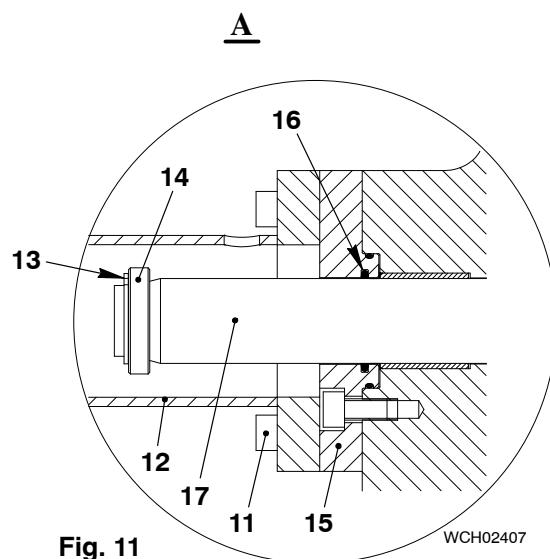

Fig. 11
- 5) Remove upper spring carrier (9) by using a M8 bolt.
- 6) Turn regulating sleeve until the guide pin (10) is in line with the cut in the regulating sleeve and lift the regulating sleeve off.
- 7) Unscrew the screws (11, Fig. 11) and remove the cover (12).
- 8) Remove the two circlips (13) with the rings (14).
- 9) Remove the intermediate flange (15) with the rod seal rings (16) and pull the toothed rack (17) out.